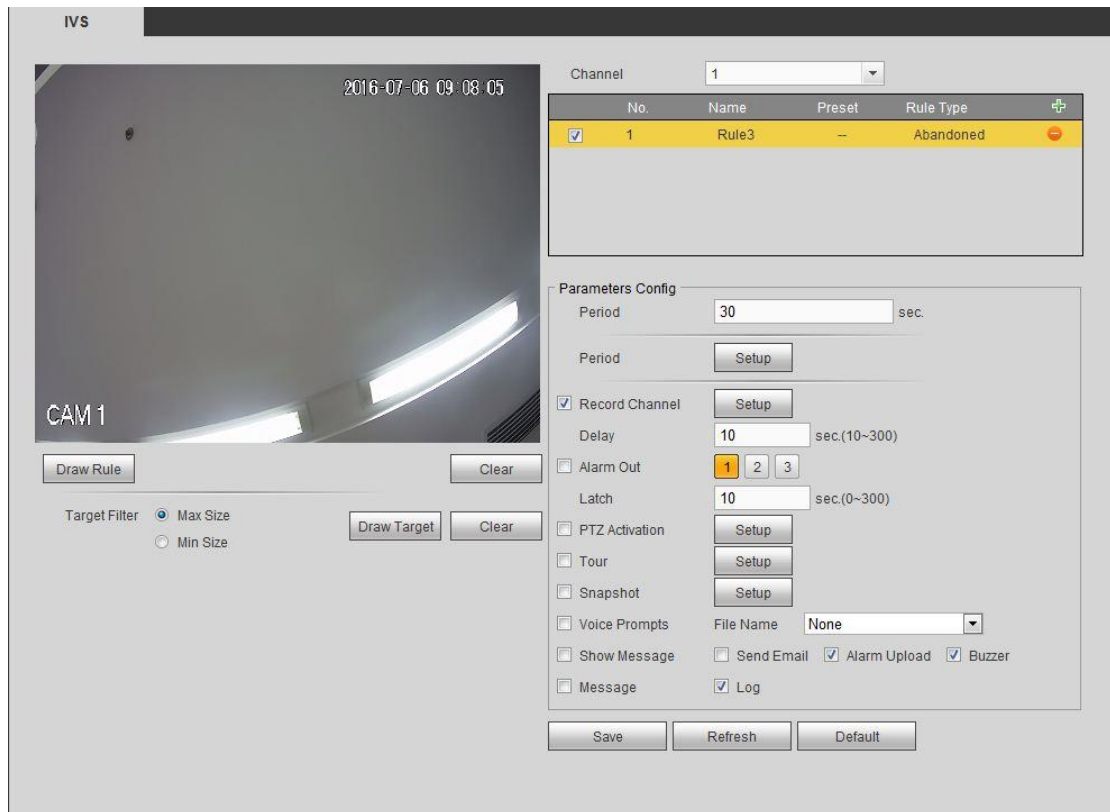

Figure 4-77
Step 2 Check the box to enable abandoned object detection function. See Figure 4-77.